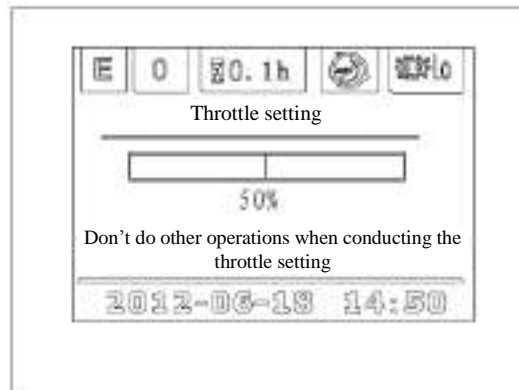

Figure3-56 Setting percentage
- b) Throttle adjustment is setting, as shown in Figure 3-56